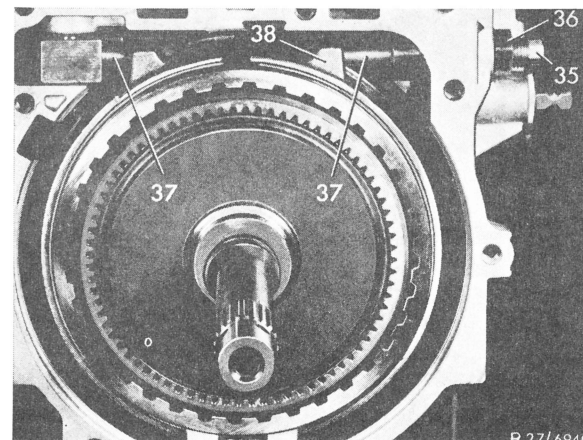

Fig. 54
**80** Insert brake band B 3 with radially grooved lining (strong steel band) (38) from the front into transmission case, insert both thrust pins (37) into brake band B 3 (38) and turn adjusting screw (35), coated with sealing compound, into transmission case until brake band is held in place (Fig. 54).